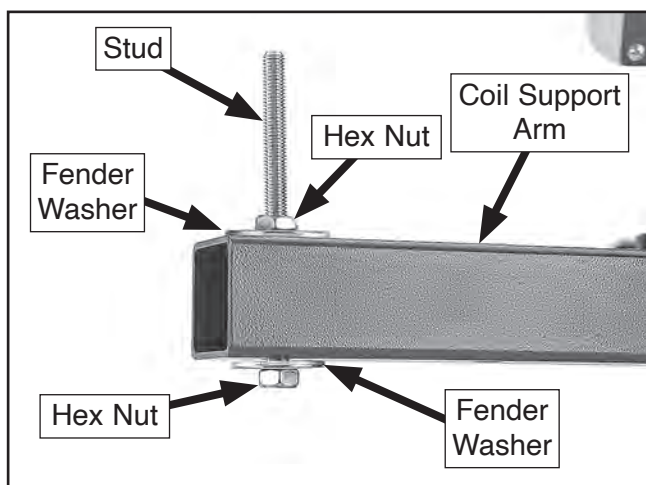

Figure 21. Stud installed into coil support arm.
5. Install stud through bottom of coil support arm (see **Figure 21**) and secure with (1) M10-1.5 hex nut and (1) 10mm fender washer.